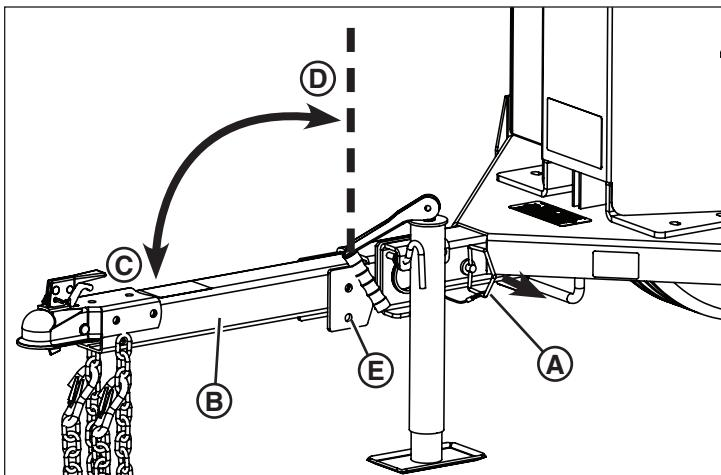

Figure 4
1. Remove the locking pin (**A**, Figure 4) securing the trailer tongue (**B**) in the towing position (**C**).
2. Raise the trailer tongue to the park position (**D**, Figure 4). Secure with the locking pin, inserting into the park position locking hole (**E**). Be sure to secure the locking pin with the attached hairpin.
1. Remove the locking pin securing the trailer tongue in the park position (**E**, Figure 4).
2. Lower the trailer tongue to the towing position (**C**, Figure 4). Secure with the locking pin (**A**). Be sure to secure the locking pin with the attached hairpin.